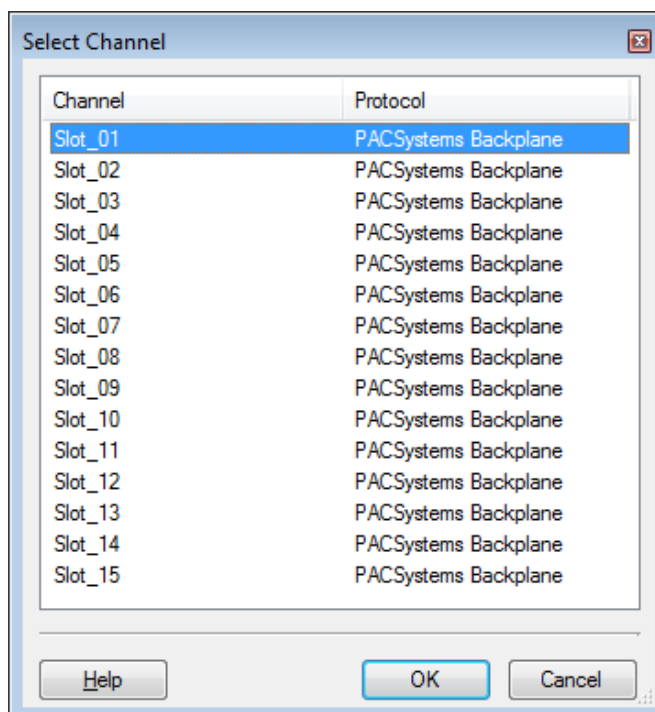

Figure 9: Manually Assigning PNC to its Resident Backplane Slot
2. Add an instance of the *PACSystems PROFINET IO Controller Module* DTM under the *PACSystems HART Communications* DTM. This is typically available from the *Device* menu as *Add* or *Add Device* when the *PACSystems HART Communications* DTM is selected in the project. This will open a dialog similar to the one shown in Figure 9: